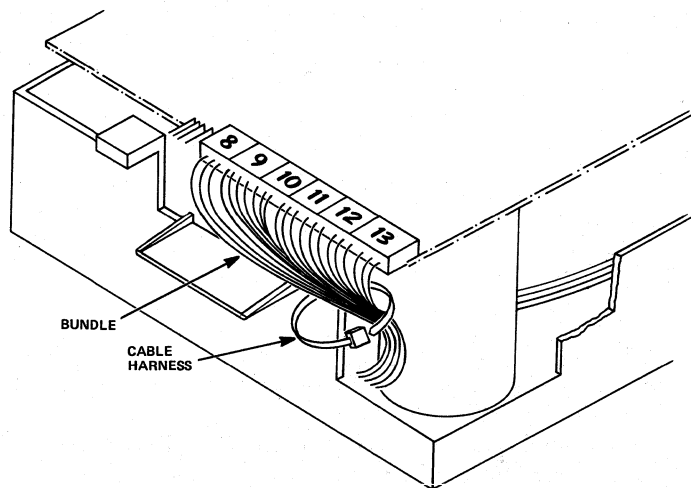

Figure 5-17
- 5.9.13 Harness the index emitter sensor cables and the index detector sensor cables to the bundle (see Figure 5-17) located at the rear of the disk drive.